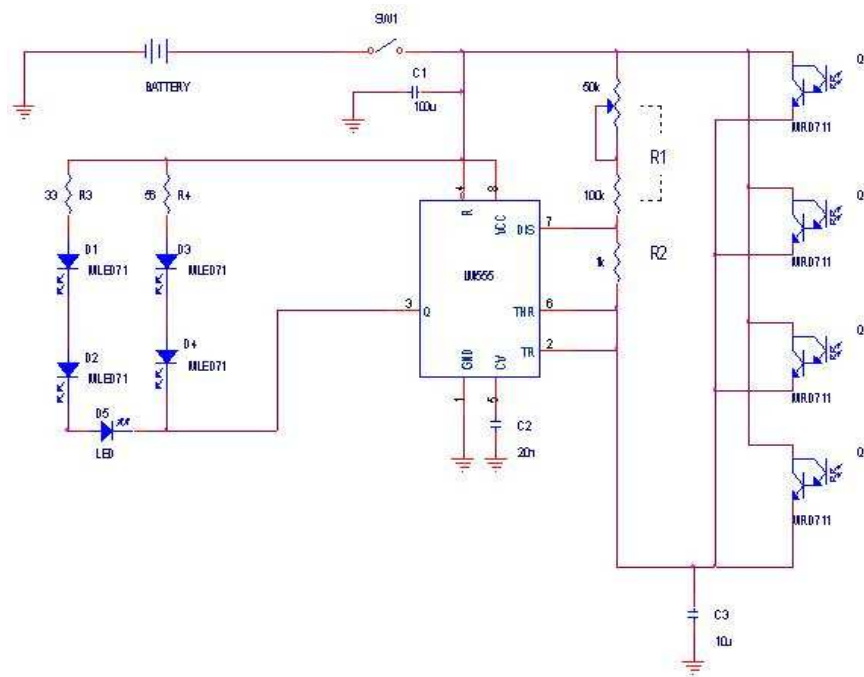

Figure 5: Completed firefly circuit.
Now we are going to add a control mechanism to the firefly so they will synchronize when put in close proximity (1" - 6"). The actuator that we are using is a phototransistor that will sense infra-red (IR) light given off by the IR LED's of the other fireflies. The control of the firefly is the 555-timer circuit itself. The previous circuit that was constructed can be used but the phototransistors (4 of them) need to be added in parallel. The collectors will be connected to power (or is you chose to, connect to the DIP switch). The emitters will be connected to pin 6 of the 555-timer (see Figure 5).